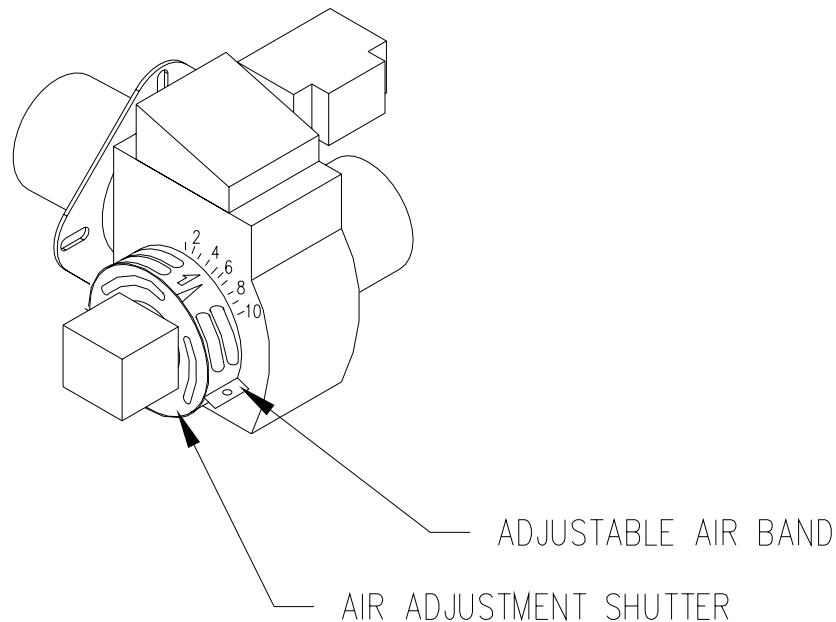

Figure 8: Preliminary Adjustment of Burner Air Band and Air Shutter
- i. When ignition is established, make a preliminary burner air adjustment to attain a clean combustion flame. Generally, the burner bulk air band should be about 3/16 inch open and the opening of the burner air shutter set in the range of "2" to "7", refer to Figure 8.